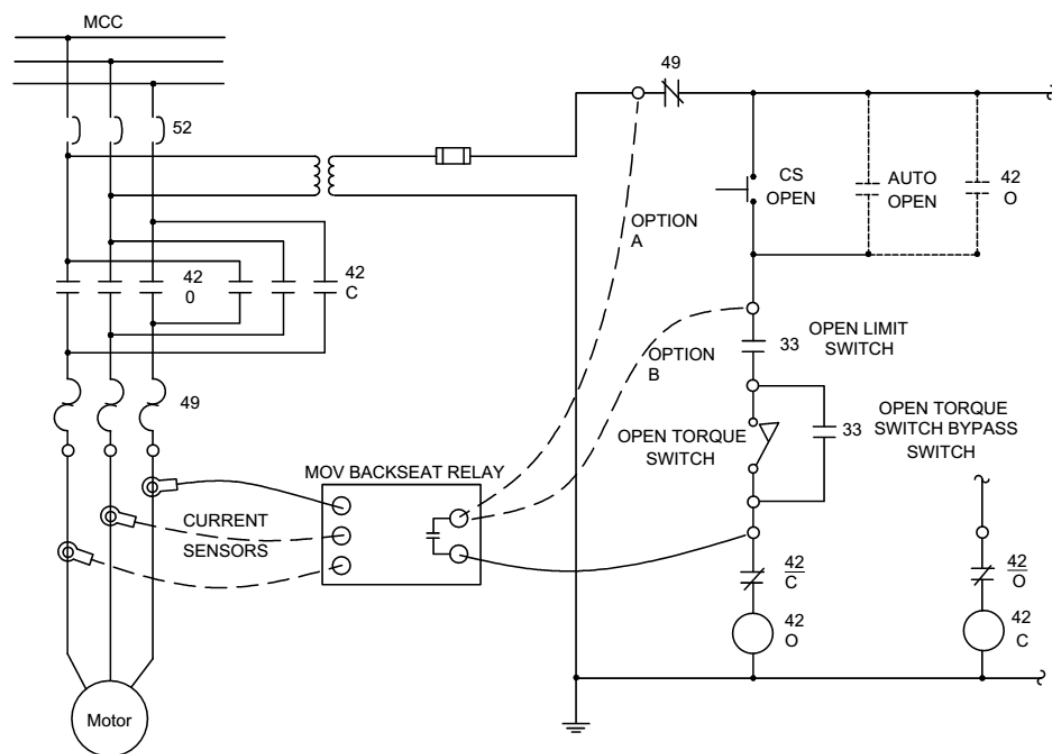

Figure 2 Typical connection diagram for 3-phase AC
- 5.3 Connect test leads from the yellow relay contact jacks to parallel with the limit switches in the motor control cabinet. Typical connection points are shown in Figures 2 and 3. Option A gives full control to the relay. With option B, the relay just bypasses the limit switches.
- *Motor Start From* – Select the connection option as described in Figure 2 or 3. When B-Control Panel is selected, the probe failure detection at end of inrush time for the start of run will be disabled.
- *FAILED PROBE TRIP* will occur if the probe became disconnected during the operate phase or if no current was detected at motor start from this device (Figures 2 and 3 option A).